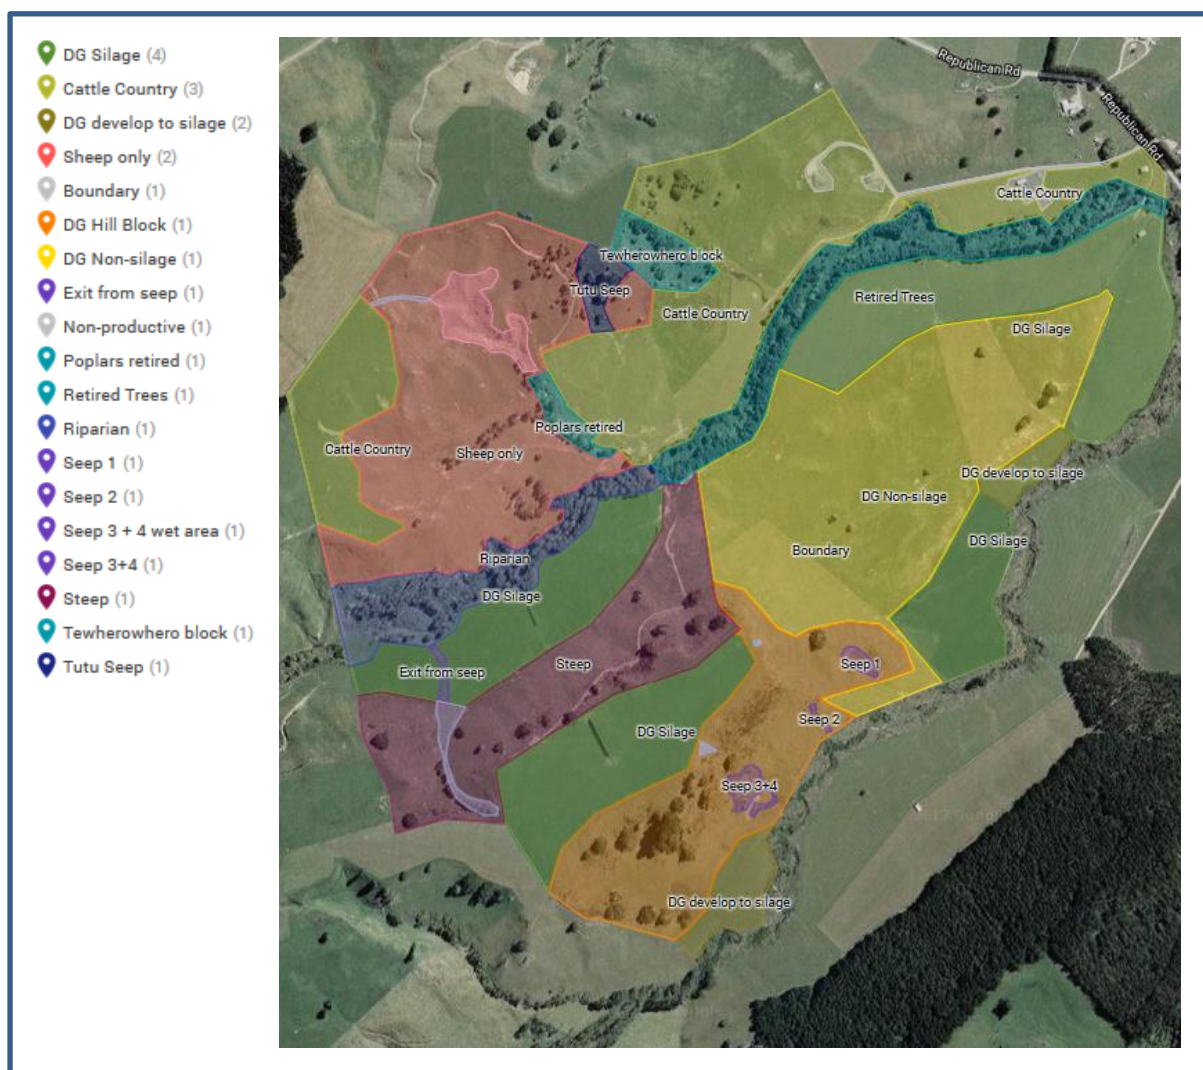

Figure 1: Block Map of 238 Republican Road, Rerewhakaaitu
- 5.6. The farm map, identifying the mapped blocks is in Figure 1 overleaf: